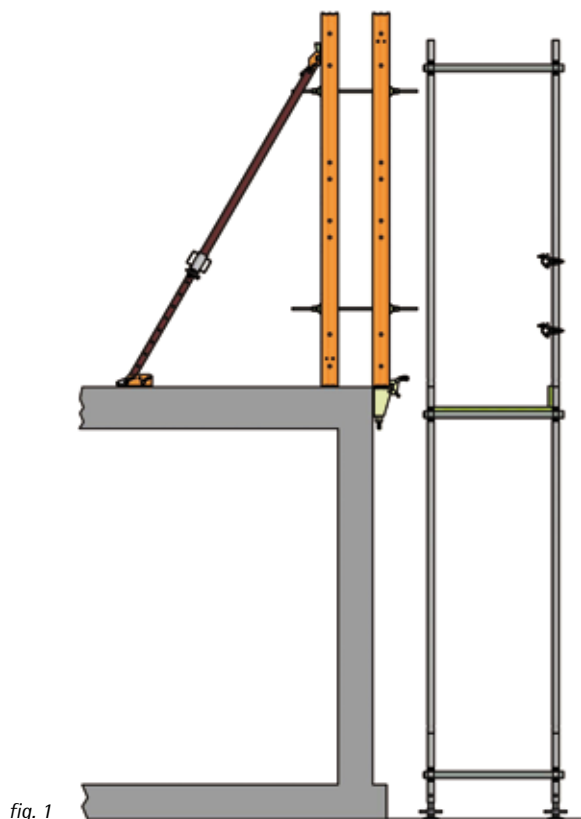

fig. 1
- As long as the inner formwork is placed first and fixed with adjustable props, see fig. 1, the same tabular values can be used.